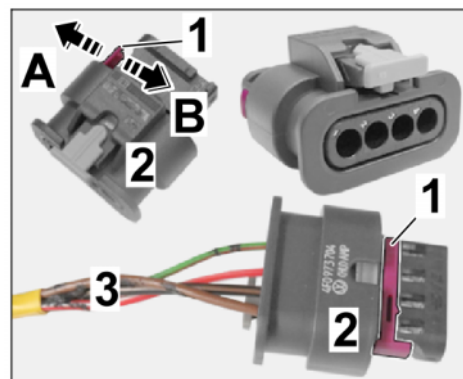

Figure 23
3.4.1 Release the socket housing (4-pin, see parts list) (⇒ *Figure 23 -LHD vehicle -*).
- 3.4.3 Lock the socket housing (4-pin, see parts list) (⇒ *Figure 23 -RHD vehicle -*).